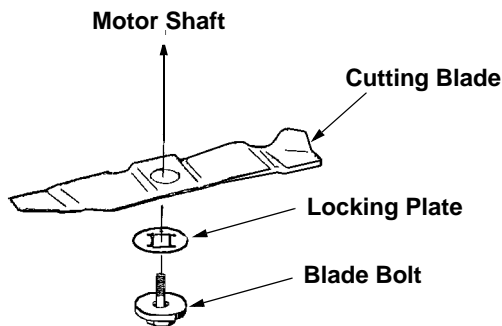

Figure 13
- Place the cutting blade, locking plate, and blade bolt against the blade hub assembly and thread the blade bolt on finger tight. Refer to Figure 13.
- Remove the blade and blade hub assembly and lubricate the motor shaft with light oil or engine oil. Refer to Figure 13.